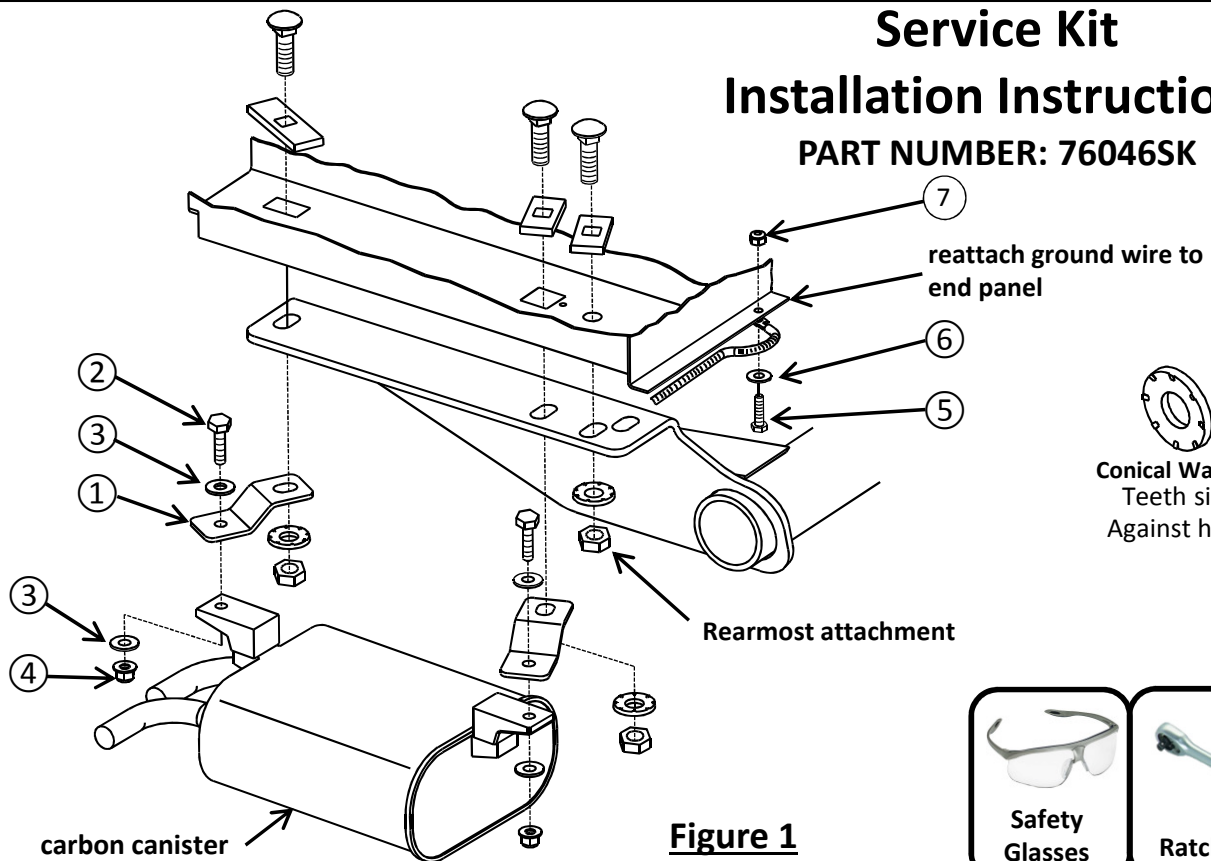

Figure 1
- Lower carbon canister** – Using a 10mm socket, remove the (2) bolts holding the canister to the bottom of the driver's side frame. Return bolts to vehicle owner.
- Relocate ground wire** – Using a socket and end wrench, reattach the ground wire to the existing hole on end panel with the 1/2" hardware provided. **See Figure 1.**
- Attach mounting brackets** – Using a 13mm socket and end wrench, loosely attach the (2) mounting brackets to the carbon canister in orientation shown using M8 hardware provided. **See Figure 1.**